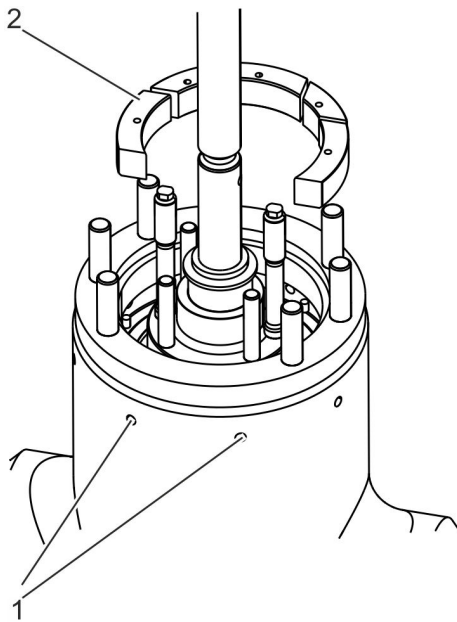

Fig. 30: Removing segments
3. ➤ Using the pin puncher, punch the segments (Fig. 30/2) into the interior and through the outer ejection bores (Fig. 30/1).
4. ➤ Remove the segments (Fig. 30/2).